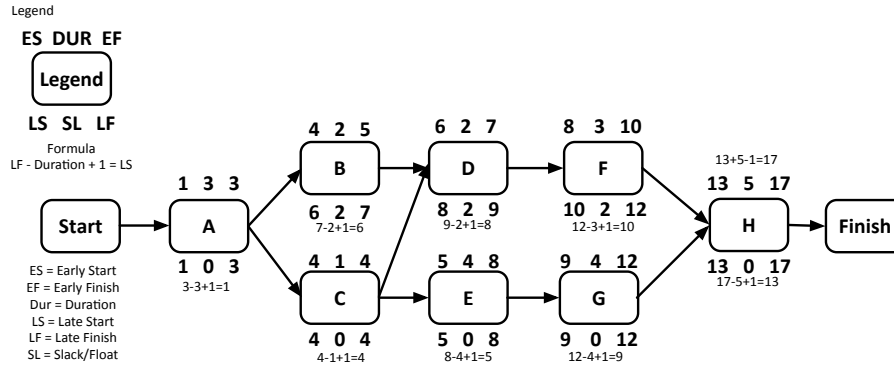

Figure 11-20: Backward Pass
3. At any burst on the network diagram, select the smaller of the late start (LS) values.
4. Perform steps 2 and 3 until all activities are done. At this point, the network diagram should resemble Figure 11-20: Backward Pass.